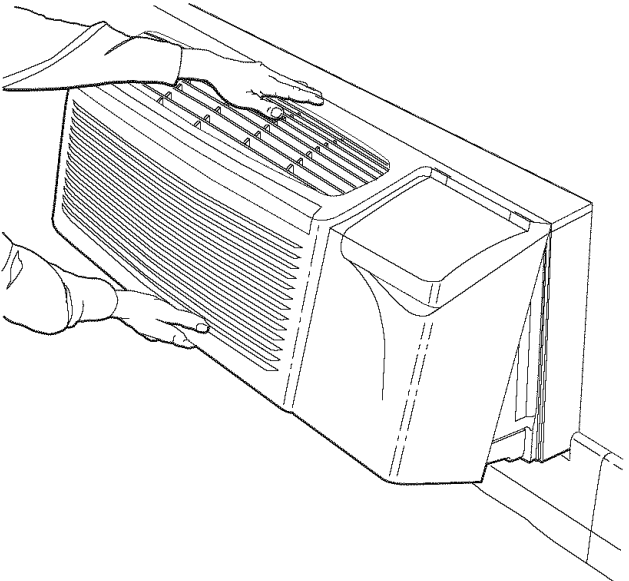

Fig. 2 — Removing Front Panel
- Step 2** — Remove front panel from unit by grasping the panel firmly at the center top and center bottom, and then pulling the panel upward at the bottom and forward at the top to release magnetic latches and partition hooks. See Fig. 2.
**Step 2** — Remove front panel from unit by grasping the panel firmly at the center top and center bottom, and then pulling the panel upward at the bottom and forward at the top to release magnetic latches and partition hooks. See Fig. 2.